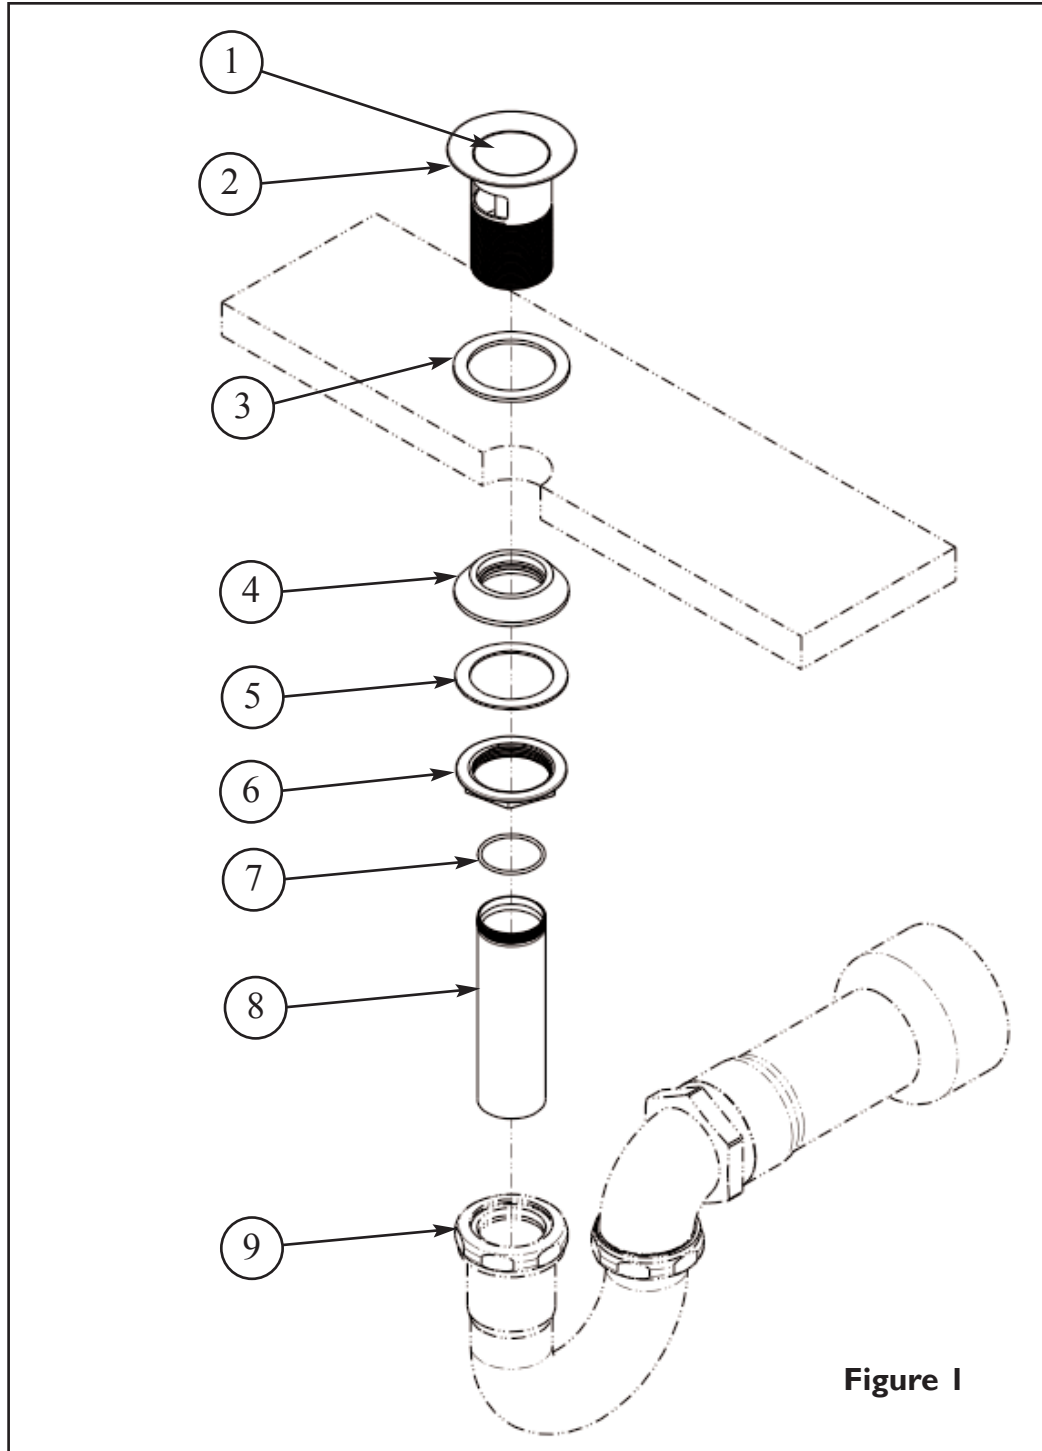

Figure 1
- a. 1/2" IPS flexible RISER (2), discard rubber NOSECONE (7), friction WASHER (3) and coupling NUT (4).
- b. 3/8" or 1/2" O.D. bullnose RISER (5), place friction WASHER (3) and coupling NUT (4) onto bullnose RISER (5).
- c. 1/2" O.D. copper RISER (6), place coupling NUT (4), friction WASHER (3), and rubber NOSECONE (7) onto end of copper RISER (6).
- Turn VALVE STEM (4) to OFF position.
- Place ESCUTCHEON (2) with O-RING (3) onto CARTRIDGE (5).
- Insert the HANDLE (1) into the VALVE STEM (4) and secure with CARTRIDGE (5). Any adjustments for rotational alignment must be made to the valve body, not to the cartridge.
- Do not remove drain PLUG (1) from FLANGE (2). Place FLANGE (2) and white WASHER (3) through sink drain opening. (Clear silicone may be used in place of white washer.) From bottom side of sink, place cone shaped rubber WASHER (4) onto FLANGE (2) and slide up against sink bottom. Note: Cone portion of WASHER (4) to face upward. Next slide on clear flat WASHER (5) and secure with flange NUT (6). Assemble O-RING (7) to TAILPIECE (8) and attach to drain FLANGE (2). Attach TAILPIECE (8) to p-trap drain (9) (not included). See Figure 1.